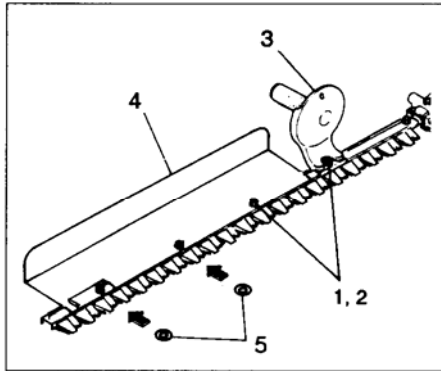
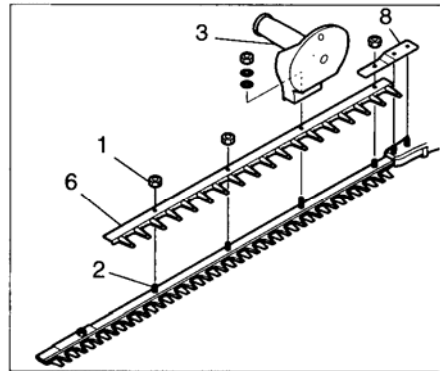

Fig. 1-1
Fig. 1-2
#### Handle B (3) and Gathering Plate (4) (Fig. 1-1)
1. Remove the four washers and nuts (1) from cutting blade end.
2. Set the gathering plate on the guide bar, then finger tighten the three washers and nuts. \*Use one each (5) of the two washers, which have been provided, under the gathering plate or on the two blade-fixing bolts from the cutting-blade end to install the gathering plate on THT-2540. (If so equipped)
4. Before securing the finger-tighten nuts, screw the blade fixing bolts (2) to be seated, then loosen the bolts approx. 1/2 turn.
#### Handle B (3) and Blunt guard (6) for USA/CANADA (Fig. 1-2,3)
1. Remove the four nuts (1) (in case of double sided blade, three nuts (1)) from power head side.